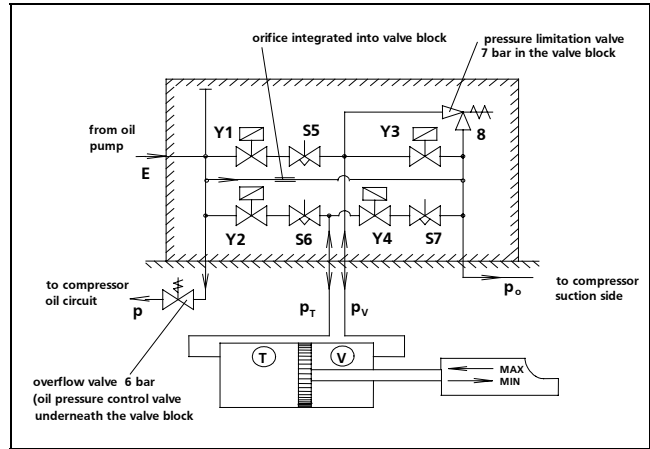

Figure 16: Functional diagram of the solenoid valve block of the capacity control
The hydraulic spaces of the adjusting piston (101) of the capacity control are filled and drained via the solenoid valve block (51). There are 4 connection holes on the base of the block which match the 4 boreholes of the casing support surface. These boreholes provide a connection to the internal oil system (pressure p), to the suction side of the compressor (suction pressure p_o) and to hydraulic spaces "T" and "V" (see figure 16). The valve block is supplied with oil from an oil pump (pressure p_{oil}) via side connection E.
Two solenoid valves are opened, one for each adjusting direction (MIN, MAX). The valves are controlled as follows and a description can be seen in figures 16 and 17.